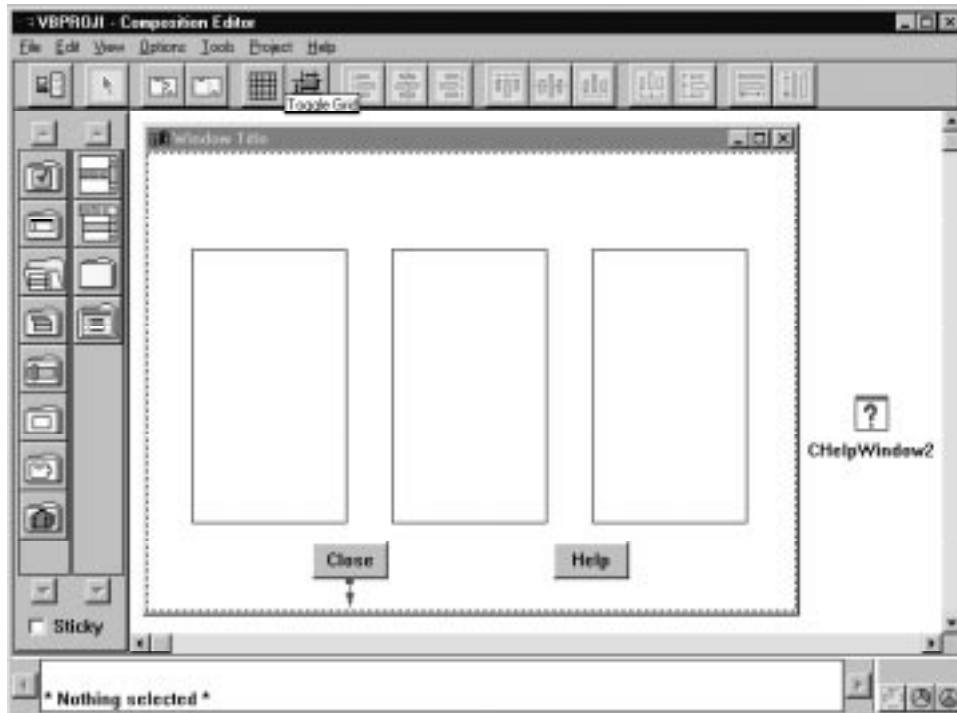

Figure 77. Composition Editor window with list box parts
5. Size and position the list boxes as shown in Figure 77 on page 194 using the alignment and distribution tools on the tool bar. Refer to "The tool bar" on page 44 for more information on using the alignment and distribution tools.